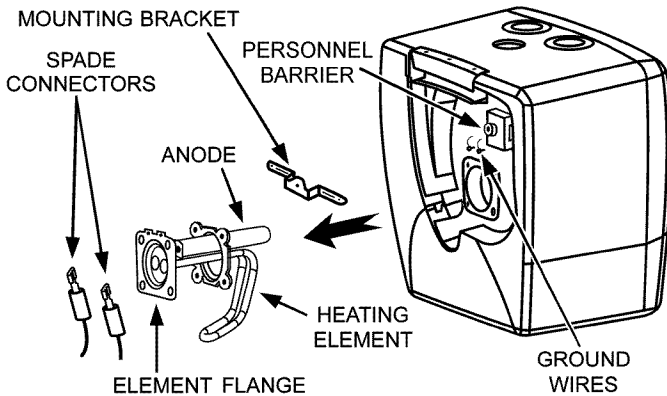

FIGURE 11.
3. Remove the two screws from the mounting bracket, see Figure 11, being careful not to drop the screws into the unit, as they will be difficult to retrieve. Remove bracket and set screws aside.
15. Replace the mounting bracket with the center rise facing outward and the screw hole up, see Figure 11.